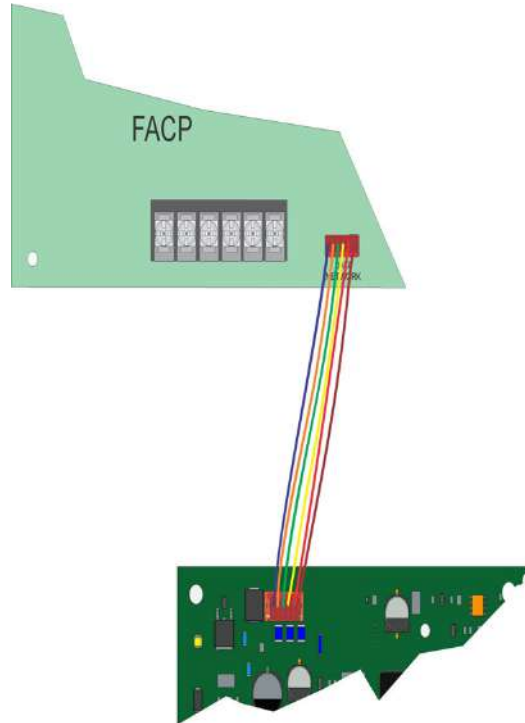

Figure 5.6 Panel to SK-NIC connection
2. Use the 6-pin cable included with SK-NIC to connect the IFP-2100/ECS to the SK-NIC. Connect the SK-NIC to the pin connector on the control panel labeled Data Network. See Figure 5.6.